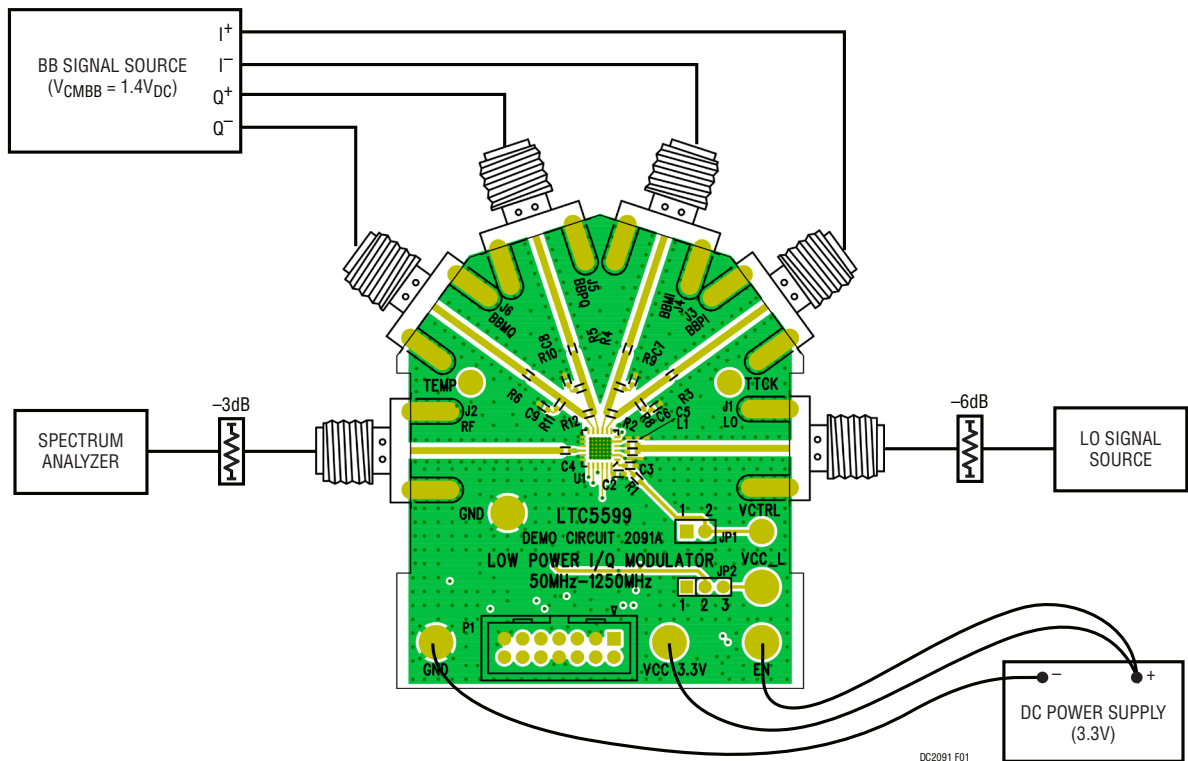

Figure 1. Test Setup for RF Performance Measurements
3. Connect all test equipment as show in Figure 1.